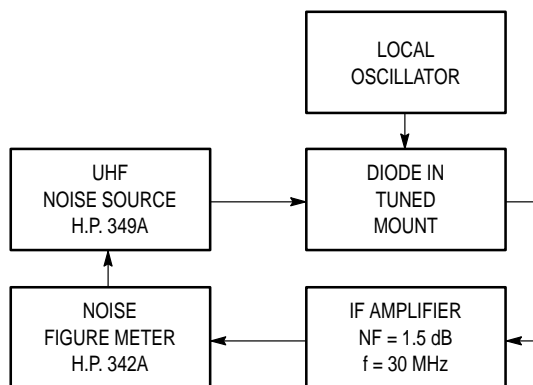

Figure 5. Noise Figure Test Circuit
- Note 2 — Noise figure measured with diode under test in tuned diode mount using UHF noise source and local oscillator (LO) frequency of 1.0 GHz. The LO power is adjusted for 1.0 mW. IF amplifier NF = 1.5 dB, $f = 30 \text{ MHz}$, see Figure 5.